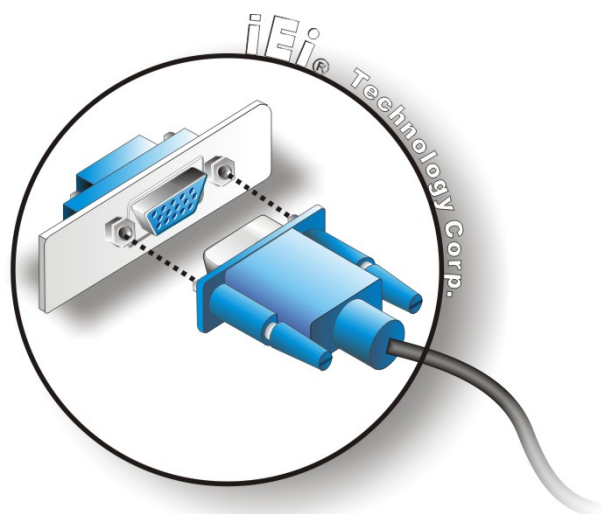

Figure 3-26: VGA Connector
- Step 3: Insert the VGA connector.** Once the connectors are properly aligned with, insert the male connector from the VGA screen cable into the female connector on the DRPC-100. See **Figure 3-26**.